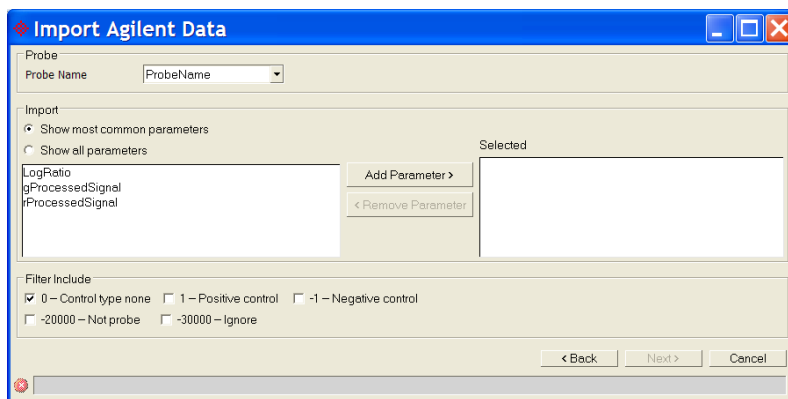

Figure 3: Selecting the data files to import
- The third *Import Agilent Data* dialog box will appear (Figure 3). Confirm that the column header that specifies the probe name in the Agilent data files is correct. In the example below, the column header selected is “ProbeName”. If an incorrect column header is chosen to designate the *Probe Name*, select the appropriate header in the pull down menu